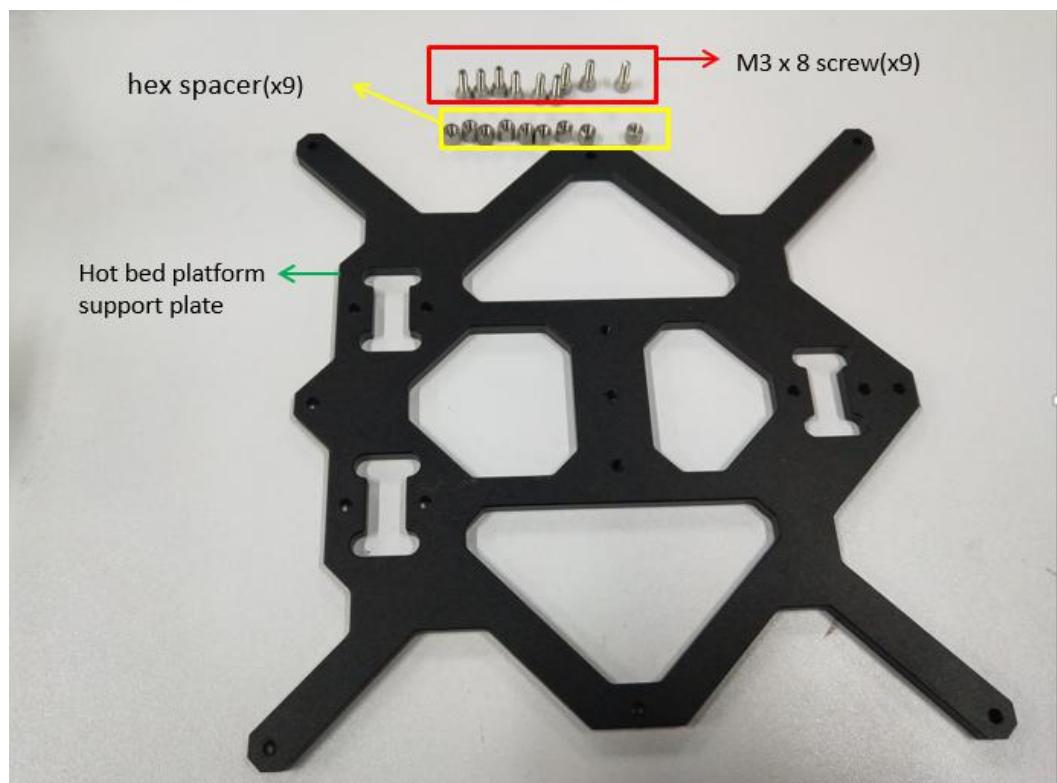

Figure 1.5.1
**Step 1-5-1:** As shown in Figure 1.5.1, prepare the materials and check whether the quantity of materials is correct, and prepare for the next installation.